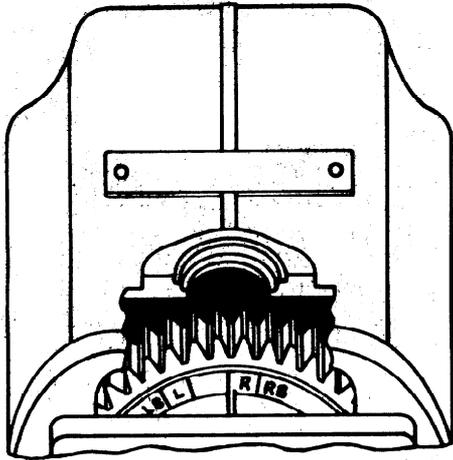

Figure 4. Alignment of Timing Marks on Distributor Gear — 6 Cylinder, Single Breaker, Right Hand Rotation
b. Six cylinder, single breaker types — The timing rib on the distributor block **MUST** lie between the "L" and "LB" or the "R" and "RB" marks on the gear, and should be nearer to the "L" or "R" mark, depending on magneto rotation. See figure 4.